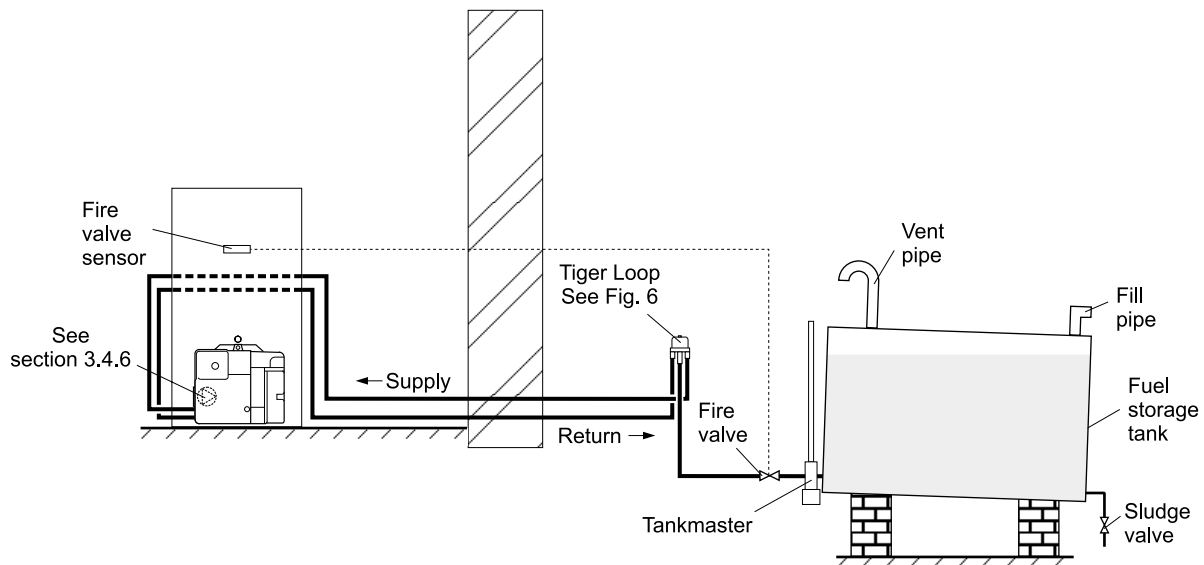

Fig. 5 - Tiger loop system
- 5 A flexible fuel line, adaptor and $\frac{1}{4}$ " BSP isolation valve are supplied loose with the boiler for the final connection to the burner. If a two pipe system or Tiger Loop system is used, an additional flexible fuel line (900 mm) and $\frac{3}{8}$ " to $\frac{1}{4}$ " BSP male adaptor are available from Grant Engineering (UK) Limited (Part No. RBS104).
- 7 The use of a 'Tankmaster' and Tiger Loop is an ideal way of delivering an oil supply to the boiler. The Tankmaster unit, fitted to the storage tank, includes a filter, sight tube, shut-off valve and fire valve. A separate fire valve is required in the fuel line (outside) where it enters the building containing the boiler. See Fig. 5.
3.4.5 Tiger Loop system - (See Figs. 5 and 6)
- 2 The Tiger Loop is connected close to the boiler as a two pipe system (omitting the non-return valve) as shown in Fig. 5. Refer to the manufacturers instructions supplied with the Tiger Loop. The Tiger Loop **must** be mounted vertically.